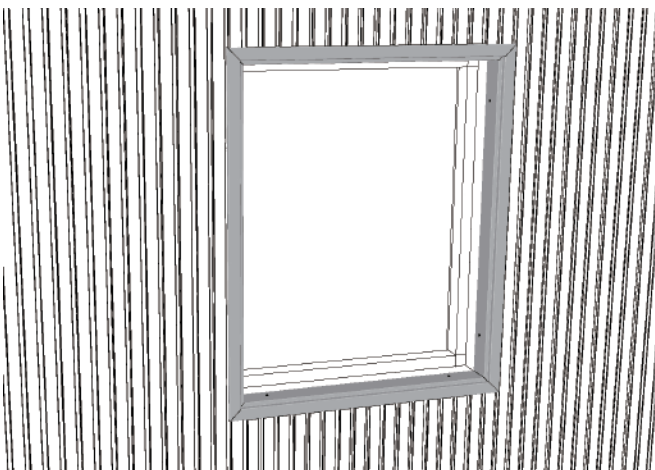

Fig24-3
3. Complete the installation of the wall cladding together with the normal large wall surface. As shown in Figure 24-3: